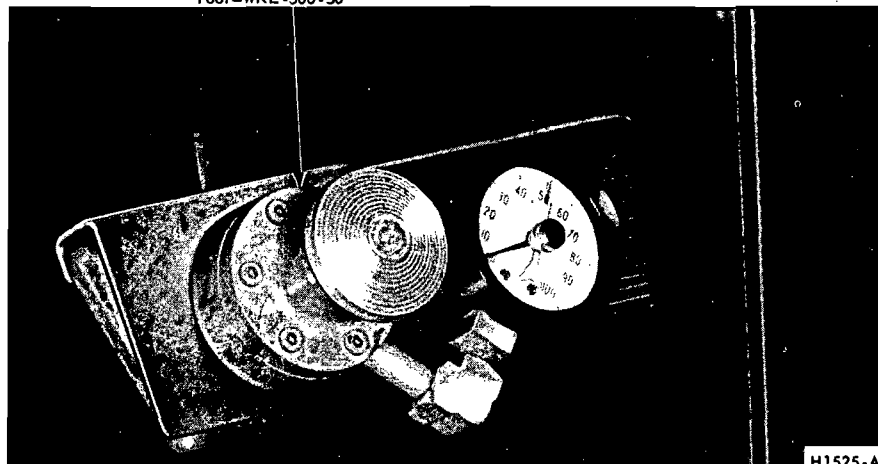

FIG. 2 Brake Pedal Effort Gauge Installed
1. Install a Brake Pedal Effort Gauge on the brake pedal pad (Fig. 2).